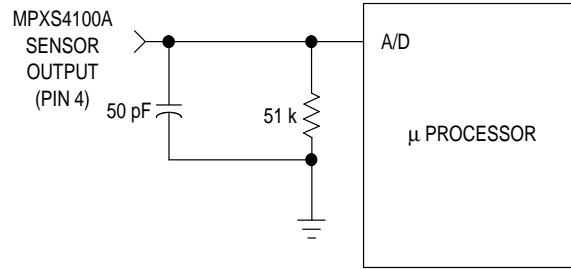

Figure 2. Recommended Decoupling Filter for Sensor to Microprocessor Interface
9. Decoupling circuit shown in Figure 2 required to meet specification.
Figure 2 shows the recommended decoupling circuit for interfacing the output of the integrated BAP sensor to the A/D input of a microprocessor (see Note 9).